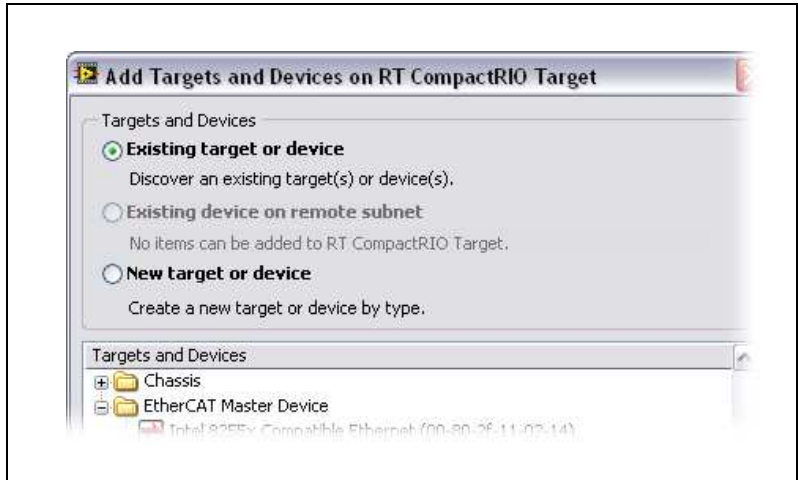

Figure 18. Adding the EtherCAT Master
2. In the **Add Targets and Devices** dialog window shown in Figure 18, select **Existing target or device** and expand the category EtherCAT Master Device to auto-discover the EtherCAT port on the master controller. An EtherCAT master device and modules can be added manually at any time.